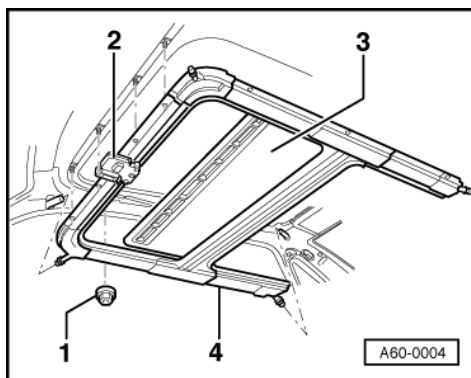

Fig.1-> Removing and installing frame
- ♦ Removing and installing =>Fig. 1 .